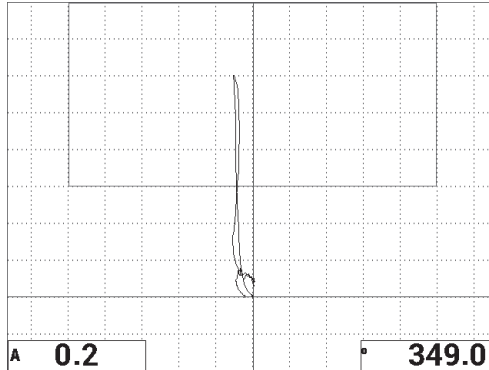

Figure 6-27 The second scan over the disbond
7. Scan over the 13 mm (0.5 in.) disbond again (see Figure 6-27 on page 149).